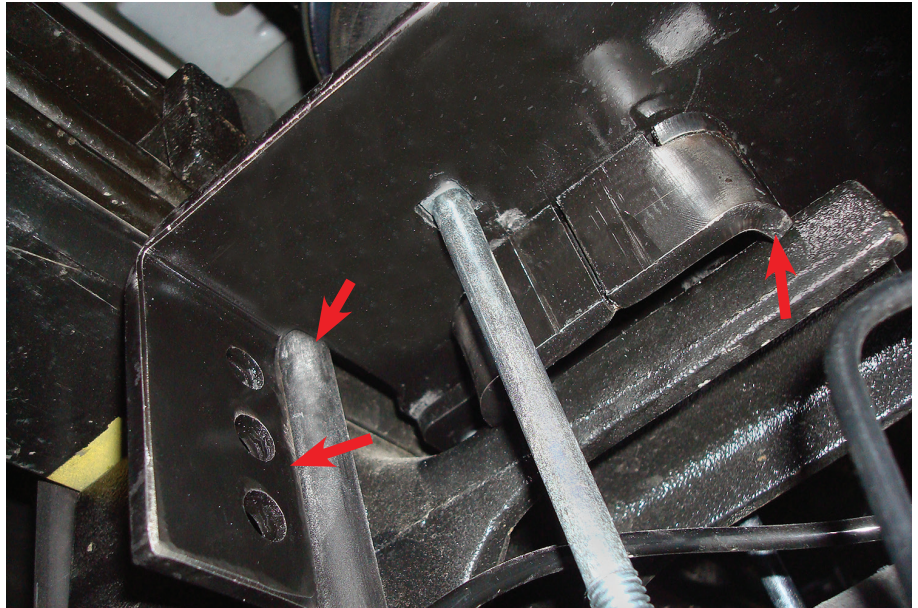

Fig. 16
2. Push the lower bracket so that it is flush against the leaf spring stack. The flanges on the lower bracket main plate should lock on the sides of the U-bolt (Fig. 16).